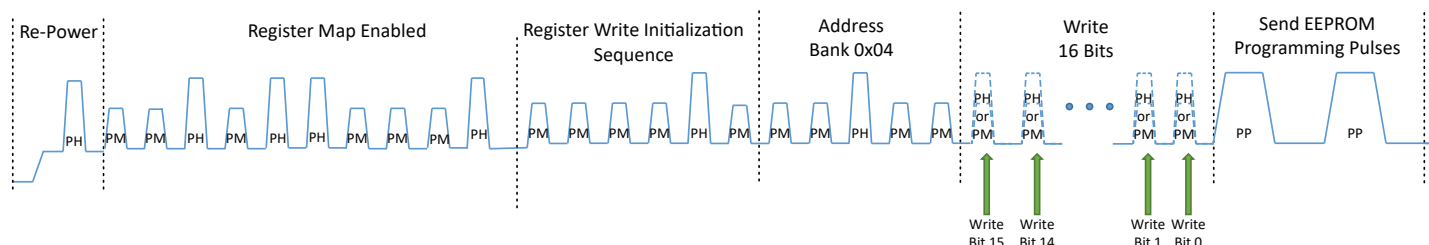
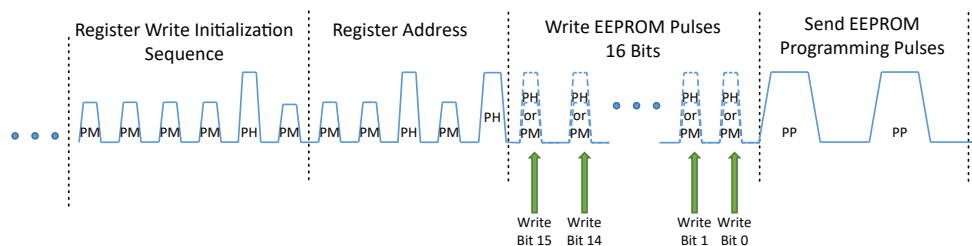

Figure 20: VCC Pulse Sequence to write data to 0x04 EEPROM Register
Figure 21: VCC Pulse Sequence to write data to 0x05 and 0x06 EEPROM Registers after Enabling Register Map
To write bits into the EEPROM registers, an entire bank of 16 bits must be written at once. To perform the write, a sequence of initialization and addressing pulses must be applied to the VCC pin of the device and then the 16 desired bits must be entered into the device as a series of high-voltage (PH) and medium-voltage (PM) pulses, with PH pulses representing digital 1s and PM pulses representing digital 0s. The programming sequence required to write to EEPROM bank 0x04 after a re-power is shown below in Figure 20. Writing subsequent registers repeats the same pattern without the need to repower or re-enable the register map. Figure 21 shows the sequence to write the EEPROM addresses 0x05 and 0x06 after following the initialization sequence shown in Figure 20. Entering EEPROM write mode without having power-cycled the device, such as after completing a shadow write, is achieved by skipping the initial Re-Power PH pulse. The 16-bit sequence from each bank must be established based on the information in Table 3 and Table 4. Once the lock bit in EEPROM bank 0x04 is set to 1, no further programming can occur. Therefore, EEPROM bank 0x05 and 0x06 must be written before the final write of bank 0x04.
2. If the APS11900 has been power-cycled since the last Read or Write to EEPROM, then the register map must first be enabled using that portion of the sequence shown in Figure 20.